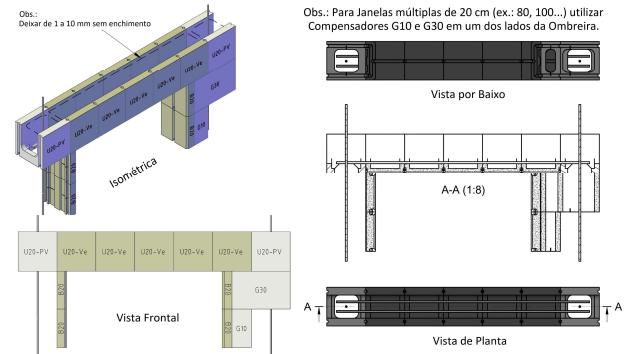

Fig. 11
1) Vide Contraverga nas Figs. 11 e 12;